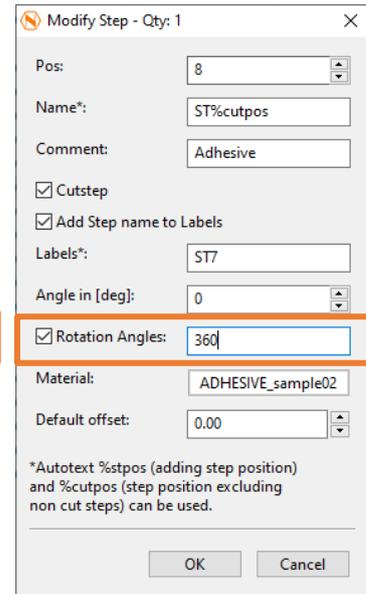

Figure 249
42. Activate the **[Rotation Angles:]** checkbox and enter “360” (Figure 249). This tells NestKing that ST7, using the Adhesive material, can be rotated by any angle during nesting.